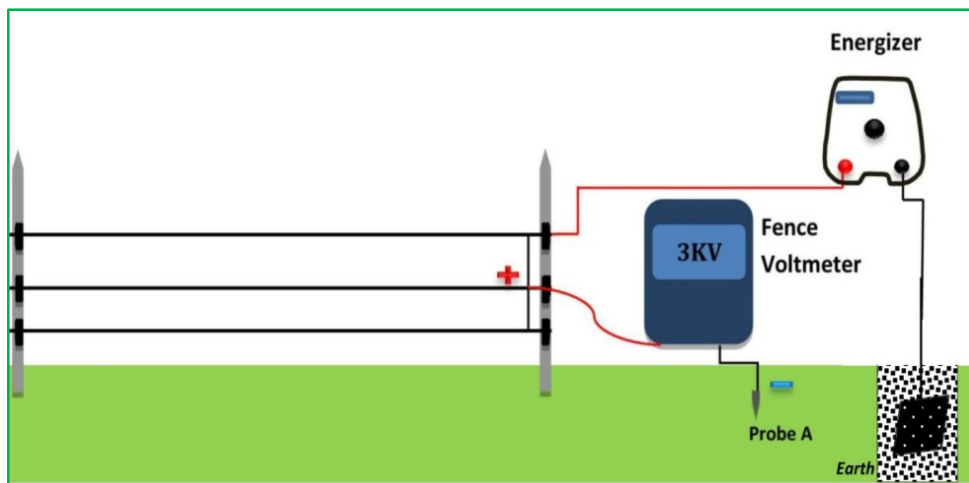

Figure 26. Testing the fence voltage
- If the reading is zero volts, it is either there is dead short circuit in the fence or not connected to the energizer at all. (see Figure 26)